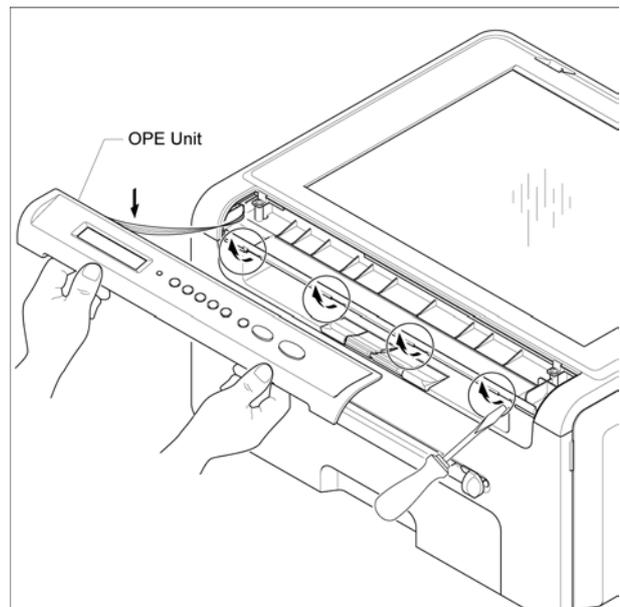

Figure 2
2. Use a flat-bladed screwdriver to unhook the OPE panel clips in the direction of the arrows, Figure 2.